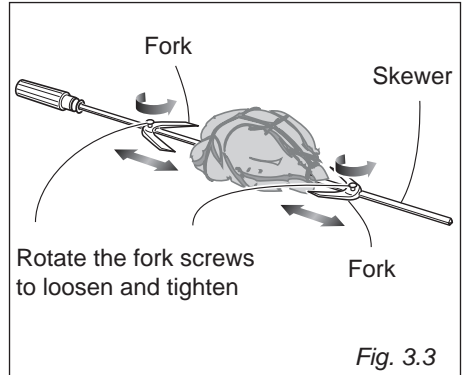

Fig. 3.3
2. Secure the meat (fig. 3.3).